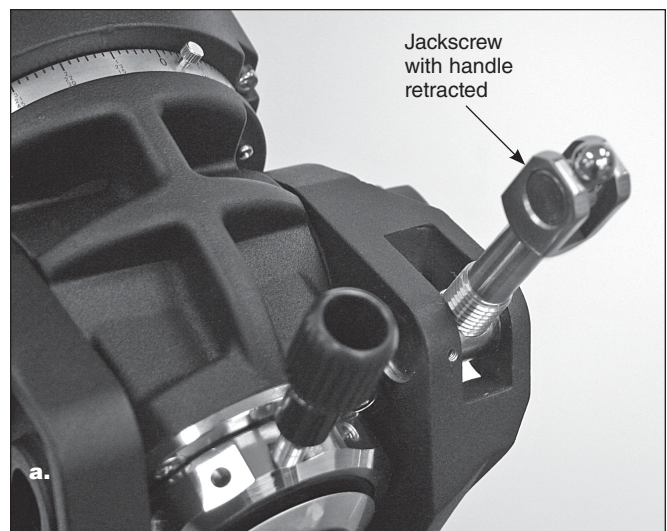

Figure 13. The altitude jackscrew with handle **a)** retracted, and **b)** extended for turning.
2. Locate the altitude jackscrew (**Figure 13**) and extend its retracted handle. Use it to turn the jackscrew to set the R.A. axis elevation to your location's latitude. Refer to the latitude scale and pointer on the left side of the mount (**Figure 11b**). (If you don't know your latitude, consult a geographical atlas or look it up on the internet.) For example, if your latitude is 35° North, set the pointer to 35. The latitude setting should not have to be adjusted again unless you move to a different viewing location some distance away.